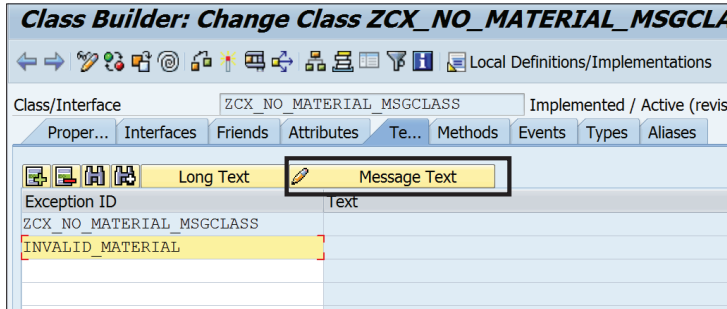

Figure 9.27 Maintaining Message from Message Class
3. To use the message from the message class, go to the TEXTS tab, maintain the exception ID, and click the MESSAGE TEXT button, as shown in Figure 9.27.